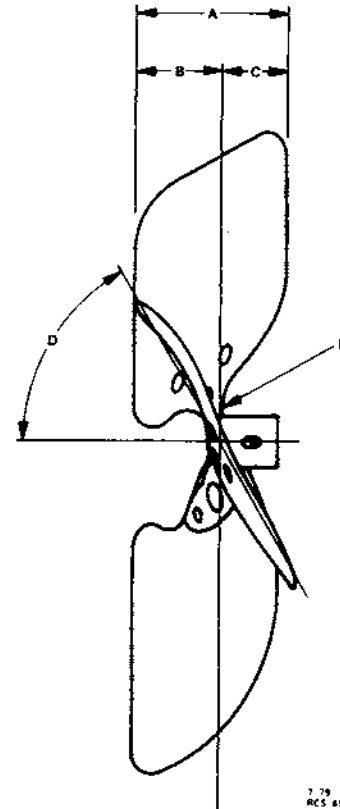

Figure 6-17.
2. If a used fan is to be installed, check the blades and adjust them in accordance with Figure 6-17.